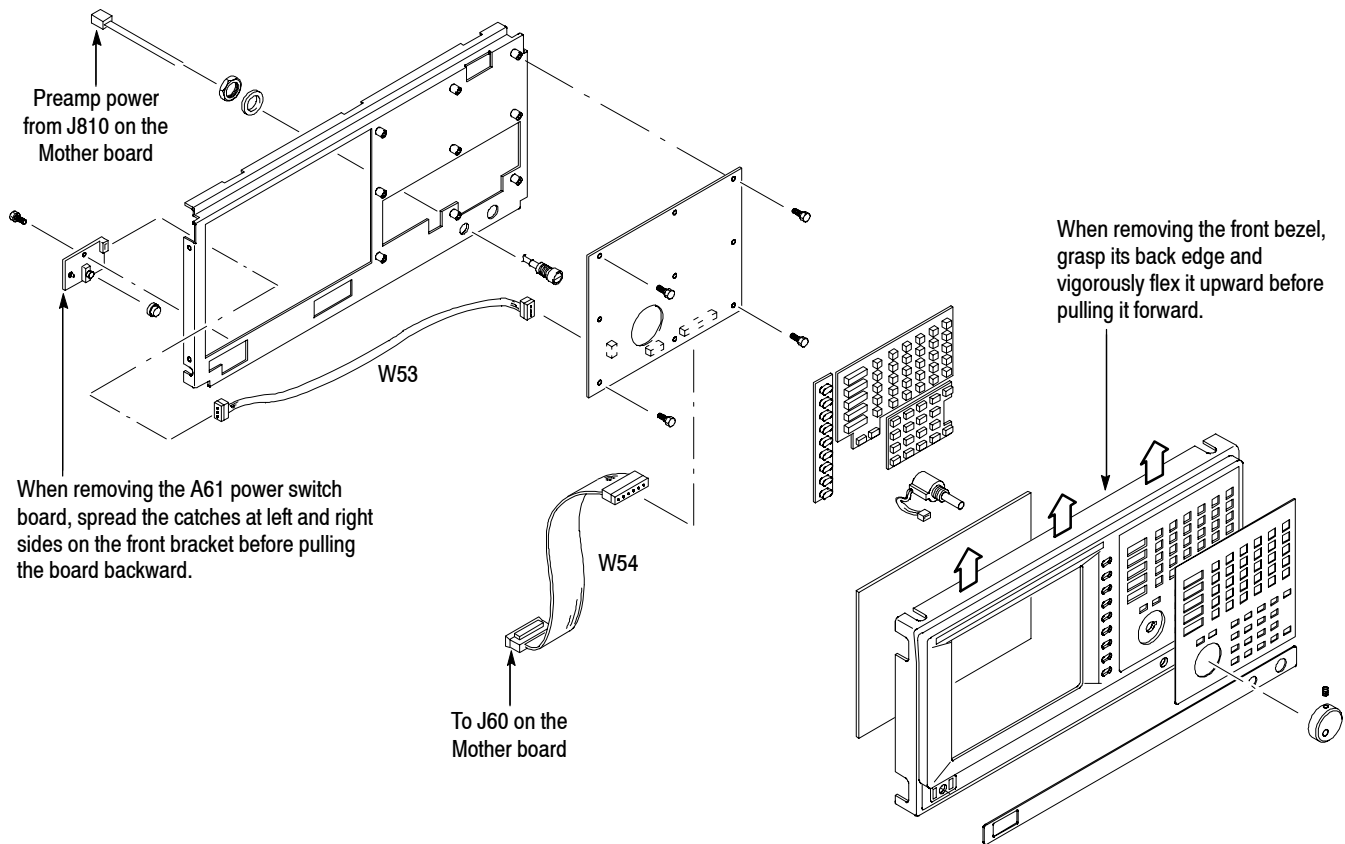

Figure 6-27: Front panel modules removal
3. *Remove the general purpose knob:* See Figure 6-27. Loosen the setscrew securing the knob using the $\frac{1}{16}$ inch hex wrench. Pull the knob away.
4. *Remove the rotary encoder:* See Figure 6-27.
3. *Remove the front bezel and menu buttons:* See Figure 6-27. Grasp the front bezel by its top edge, pry it up, and lift it forward to snap it off of the front bracket. If servicing the menu buttons, lift them out of the front bezel.
3. *Remove the A60 Front key board:* See Figure 6-27.
3. *Remove the A61 Power switch board:* See Figure 6-27.
3. *Remove the preamplifier power connector:* See Figure 6-27. Using the 14 mm nutdriver, remove the nut securing the connector to the front bracket.